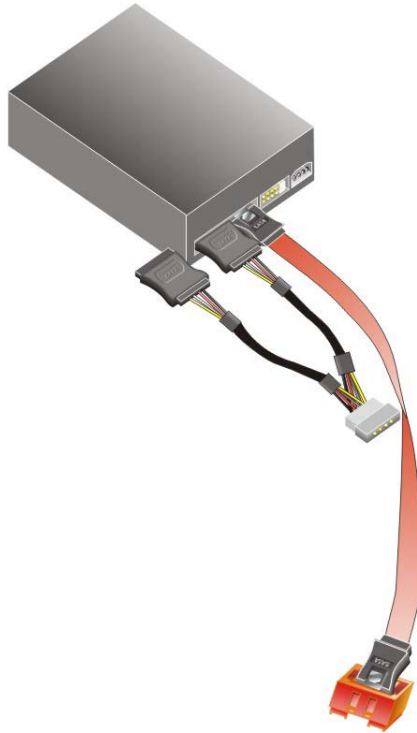

Figure 5-14: SATA Power Drive Connection
- Step 3:** **Connect the cable to the SATA disk.** Connect the connector on the other end of the cable to the connector at the back of the SATA drive. See **Figure 5-14**.
- Step 4:** **Connect the SATA power cable.** Connect the SATA power connector to the back of the SATA drive. See **Figure 5-14**.